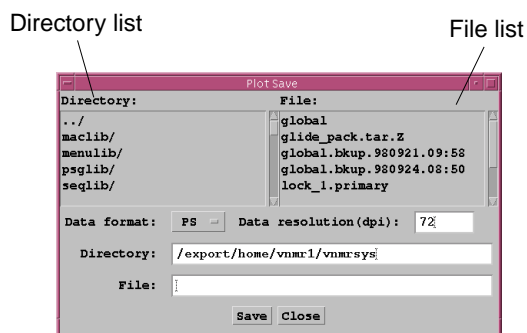

Figure 83. Plot Save Window
1. When you are satisfied with the plot that you have created, click on **File** in the main menu, then **Save Data** to open the Plot Save window shown in **Figure 83**.